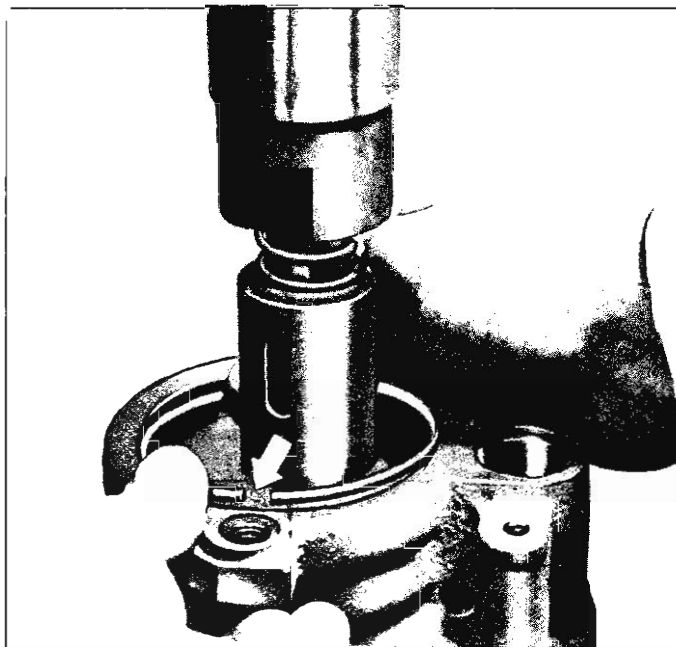

Fig. 75—Installing End Plate Retaining Ring
10. Lubricate outside diameter and chamfer of end plate with petroleum jelly to insure against damaging "O" ring and install in housing using an arbor press as shown in Figure 75.
- tion shown in Figure 75.